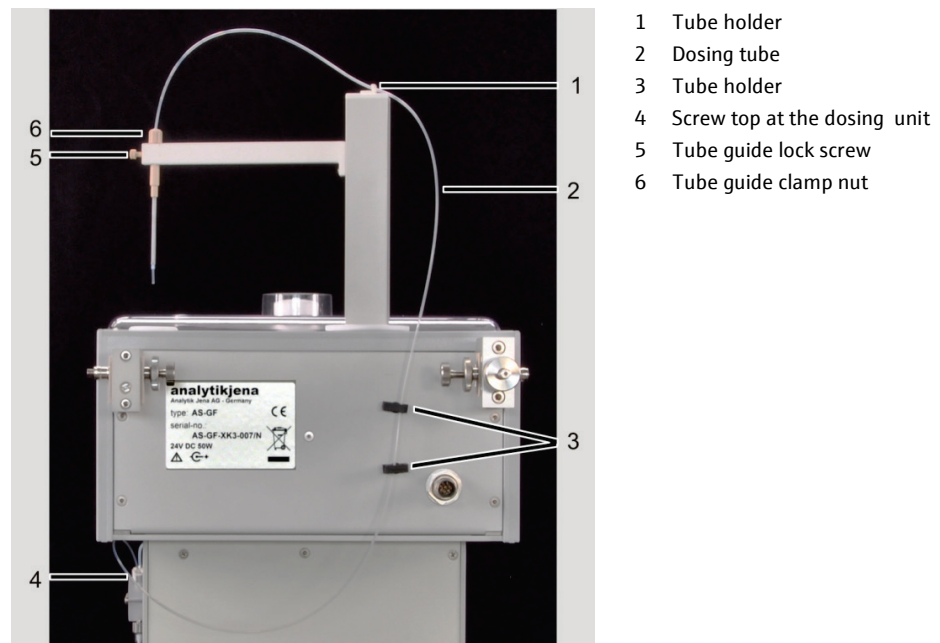

Fig. 68 Dosing tube at the AS-GF
1. Loosen the clamp nut at the tube guide (6 in Fig. 68) and remove the dosing tube by pulling upwards.
1. Loosen the clamp nut at the tube guide (6 in Fig. 68) and pull out the tube. Remove the tube from the tube holders at the sample arm and the back of the autosampler (1 and 3 in Fig. 68).
2. Detach the screw top from the T valve of the dosing unit (4 in Fig. 68).